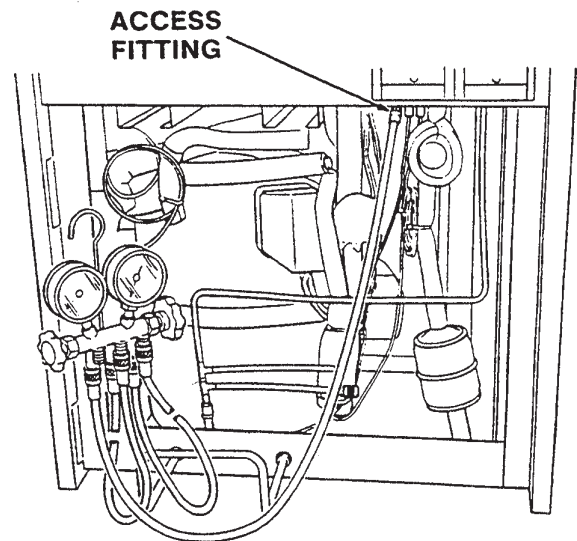

Figure 39. E.P.R. Schrader Access Fitting
2. Remove the cap from the E.P.R. Schrader access fitting (Figure 39).